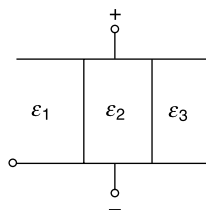

Fig. 2.42 Capacitor of Ex. 2.30
2.30 The space between two plates of a parallel plate capacitor C is filled up with three different dielectric slabs of identical size as shown in Fig. 2.42. If the dielectric constants of the three slabs be ϵ_1 , ϵ_2 , and ϵ_3 , find the new value of the capacitance. The plate cross-sectional area is A and the separation is d .